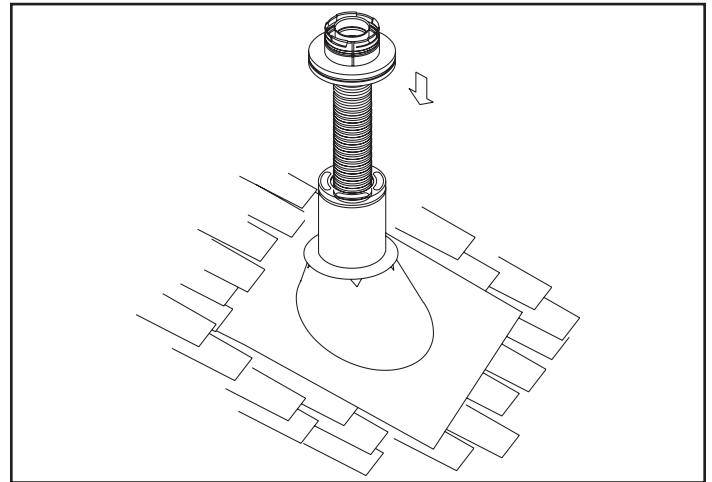

Figure 5.22
**Step 4** - Pass the flex pipe down through the center of the chimney system, and center the top adaptor on the top of the chimney pipe. Drill four 1/8 in. (3mm) diameter holes through the top adaptor, and into the chimney top. Ensure that you are drilling into the metal on the chimney. Twist lock the high wind termination cap onto the top adaptor (Figures 5.22 and 5.23).